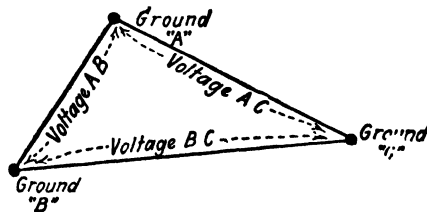

FIG. 20-14. Plan view of grounds and voltages between grounds in making ground-resistance measurements.
**Measurement of Resistance.** A convenient method of measuring the resistance of ground connections is shown in Fig. 20-14. In this method three ground connections are necessary. Therefore, in testing the ground on a transformer, in which case there are usually two grounds,
In the test, the voltage drop between each pair of grounds must be measured, in other words the voltage drop from *A* to *C*, *A* to *B*, and *B* to *C* (Fig. 20-14). It is best to take a reverse reading in each case, to eliminate errors which might be caused by a difference of potential which often exists between grounds. In making the calculations, the average of the positive and reverse reading should be taken as shown in the sample problem. The accuracy of the tests depends on the accuracy of the voltmeter reading, and therefore it is important to give the voltmeter time to settle.